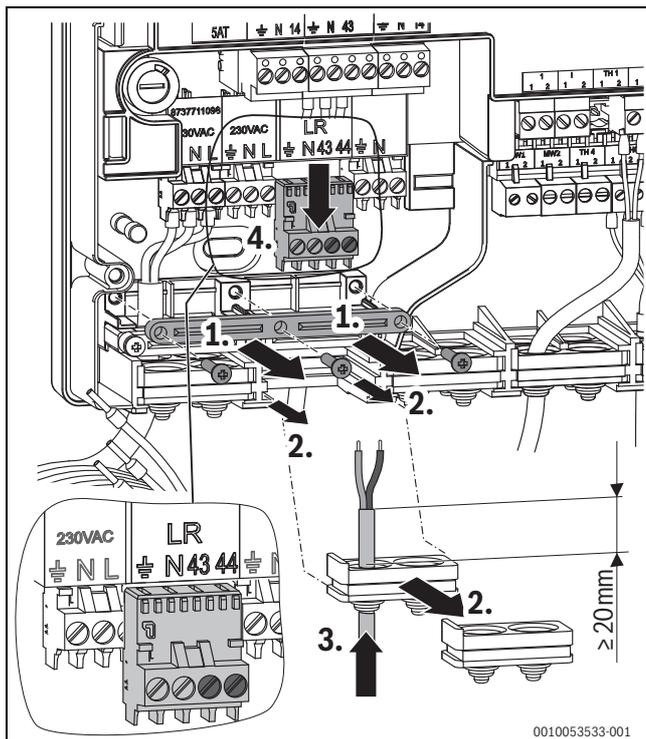

Fig. 29 Connect the 230 V voltage supply of the external controller (PHO cable not shown)
- ▶ Remove the three screws and strain relief, (→Fig. 29, step **1.**).
- ▶ Remove the two terminals (→Fig. 29, step **4.**).